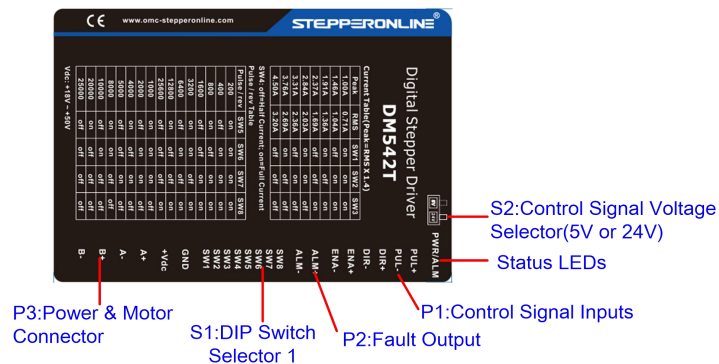

Figure 2 Connectors, DIP switches, and LED locations
PUL+	Pulse and Direction Connection: (1) Optically isolated, high level 4.5-5V or 24V, low voltage 0-0.5V (2) Maximum 200 KHz input frequency (3) The width of PUL signal is at least 2.5μs, duty cycle is recommended 50% (4) DIR signal requires advance PUL signal minimum 5 μs in single pulse mode (5) The factory setting of control signal voltage is 24V, must need to set S2 (figure 2) if it is 5V
The DM542T(V4.0) can accept differential or single-ended control signals (pulse, direction, and enable) in open-collector or PNP connection through the P1 connector (figure 2). It is recommend to add an EMI line filter between the power supply and the drive to increase noise immunity for the drive in interference environments.
- (1) ENA signal is no-connected as default;
- (2) Control signal amplitude is 24 V as default. If it is 12 V, please set the S2 (Figure 2) selector switch to 5 V first, then connect 1KΩ resistor; If it is 5V, please set the S2 to 5V.
The second 1-bit selector is located on the top (S2 in figure 2), used to configure the voltage of control signals. For the safety of optically coupled, the factory setting is 24V, [which no need to connect 2K resistors like the old drives, making it easier to use. When the voltage of the control signal is 5V, the S2 must be set to 5V, otherwise, the motor won't work.](#)